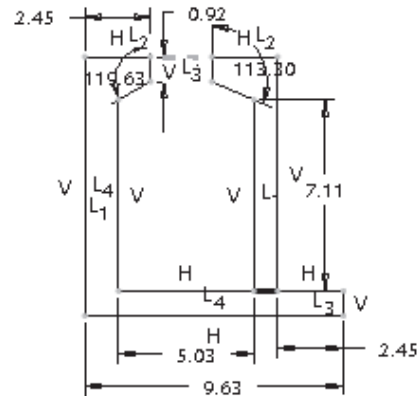

Figure 1-30 Sketch after dimensioning
- c. Dimension the required entities and then modify the dimensions of the sketch, refer to Figures 1-30 and 1-31.
7. Select the vertex that joins lines C and D and the vertex that joins lines J and K. Both the vertices are aligned horizontally, as shown in Figure 1-30.
Figure 1-30 shows the sketch after applying dimensions. If your sketch does not have all dimensions shown in this figure, apply them using the **Create defining dimension** button.